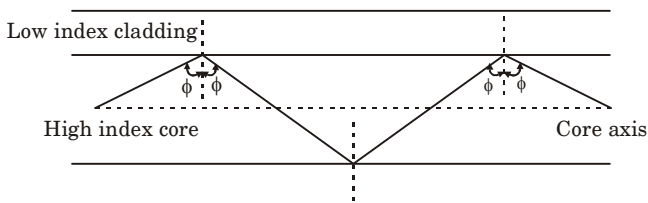

Fig. 1.5.2. The transmission of a light ray in a perfect optical fiber.
11. Fig. 1.5.2 explains the transmission of a light ray in an optical fiber via a series of total internal reflection. The ray has an angle of incidence ϕ at the interface which is greater than the critical angle and is reflected at the same angle to the normal. This light ray is known as meridional ray.